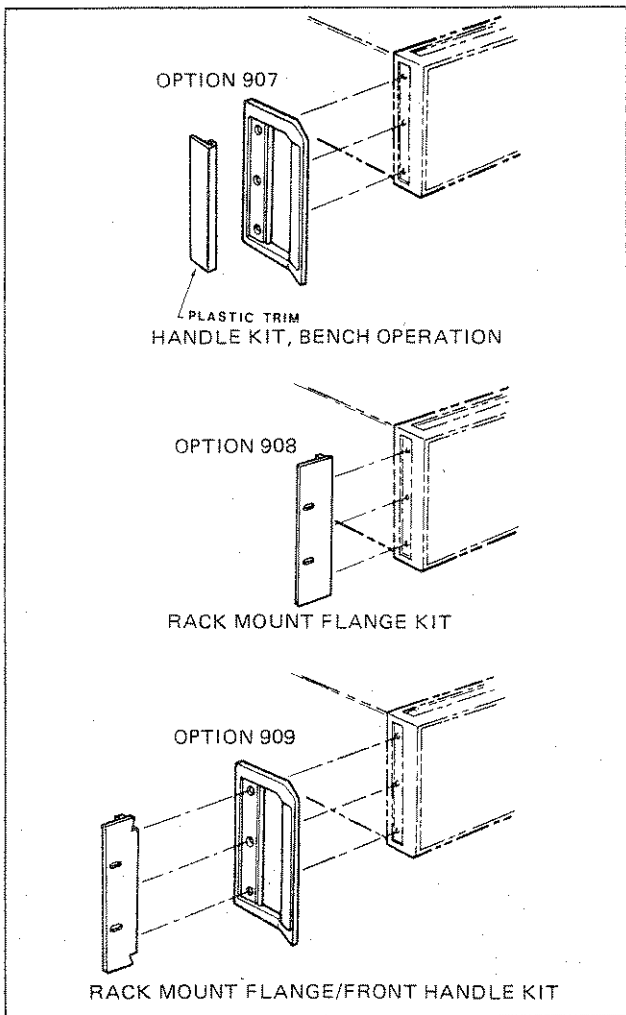

Figure 2-3. Rack Mount and Handle Kits.
2-27. The instrument has plastic feet attached to the bottom panel. The front feet contain foldaway tilt stands for convenience in bench operation. The tilt stand raises the front of the instrument for easier viewing of the control panel. The plastic feet are shaped to make full width modular instruments self-align when they are stacked. A front handle kit, -hp- part number 5061-0089 (Option 907), can be installed for ease of handling the instrument on the bench (see Figure 2-3). The kit is shipped with the instrument if Option 907 is also ordered. Otherwise, the front handle kit is available separately by its -hp- part number.
*The Rack Mount Flange Kit of item a will not provide the space requirement for rack mounting when used with the bench handle assembly (-hp- part number 5060-9899, Option 907). To rack mount with handles, the combination kit of item b, (Option 909) must be used (see Figure 2-3). If either Option 908 or 909 is ordered, the corresponding kit is shipped with the instrument. Otherwise, both kits are available separately by their -hp- part numbers.*